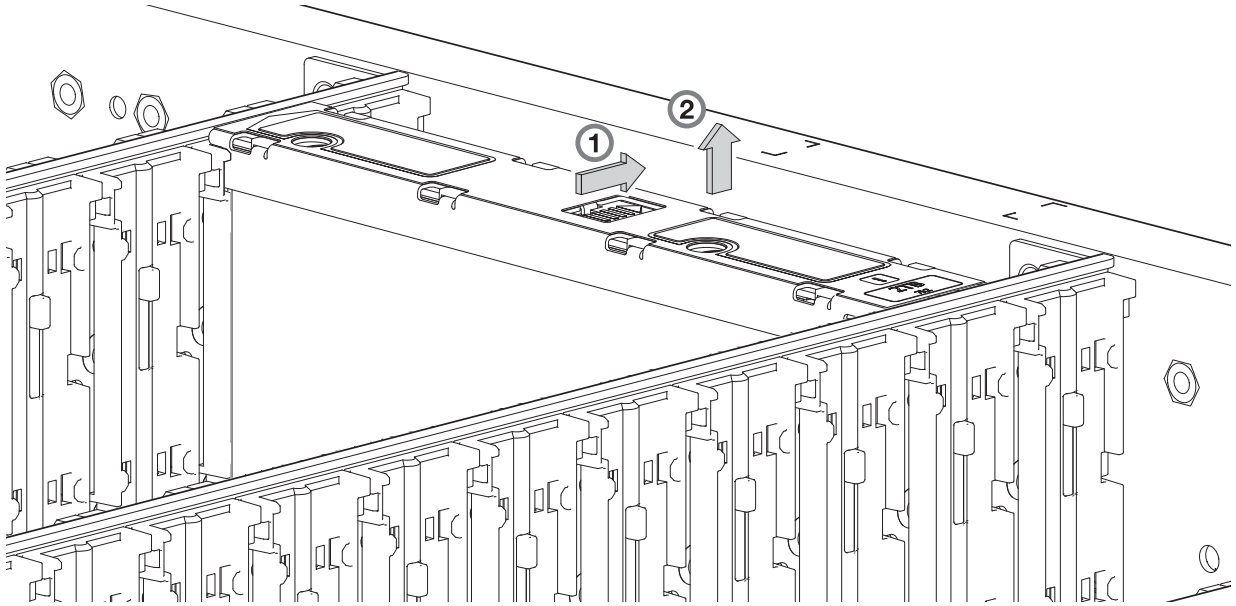

Figure 104 Removing a DDIC (1 of 2)
4. On the face of the DDIC, push the latch button in the direction shown in Figure 104 \(page 132\) to unlock the DDIC from its seated position in the slot.